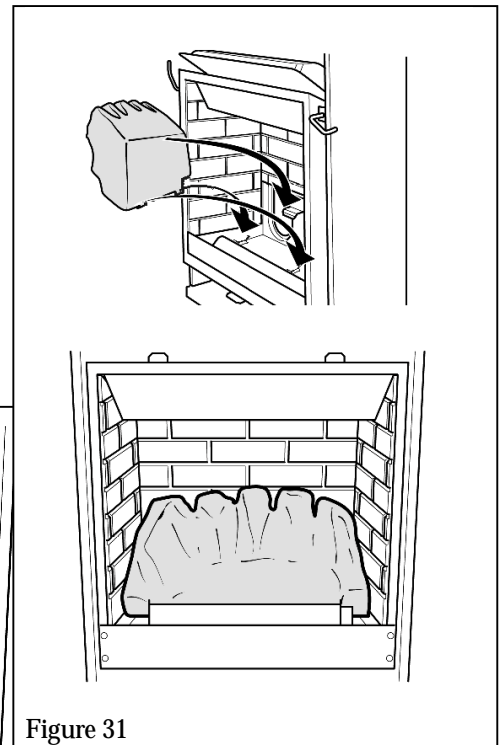

Figure 31
1. Place the base coal on the supports in the firebox and against the firebox back. See figure 31.